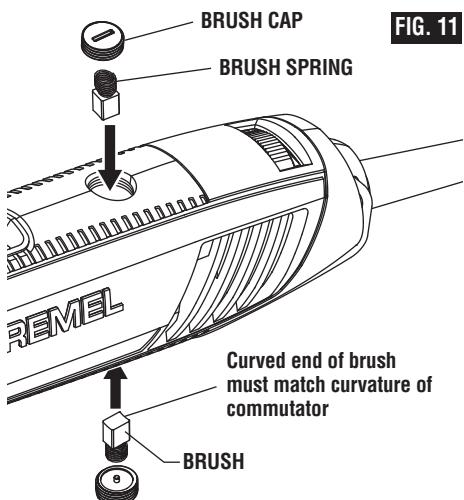

FIG. 11
2. Remove the brushes from the tool by pulling on the spring that is attached to the carbon brush. If the brush is less than 1/8" long and the end surface of the brush that contacts the commutator is rough and/or pitted, they should be replaced. Check both brushes (Fig. 11).